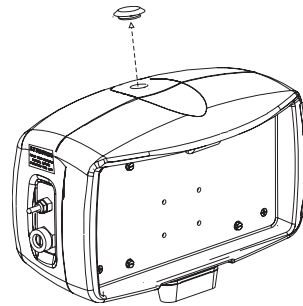

Figure 7-4
2. Using a coin or key, remove the cap on the top of the motor cover. *See Figure 7-4.*